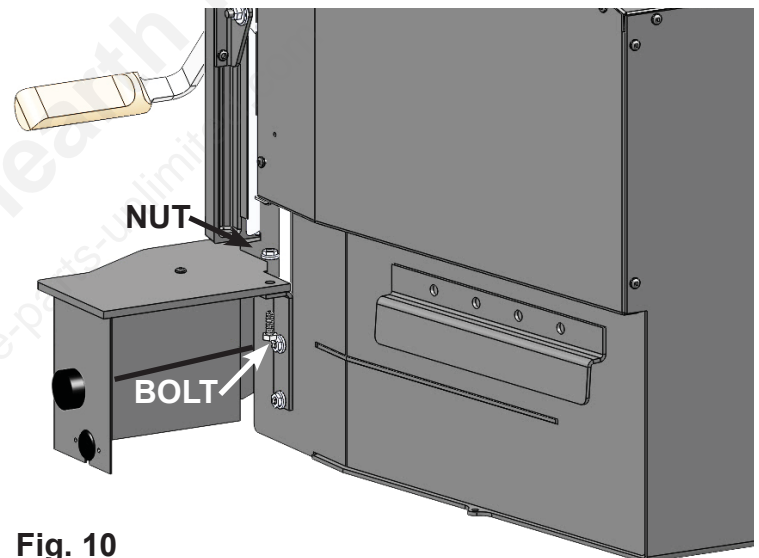

Fig. 10
- Once aligned, fasten together using a 7/16" wrench, one 1/4-20 bolt and one 1/4-20 flange nut per side. (**Fig. 10**)